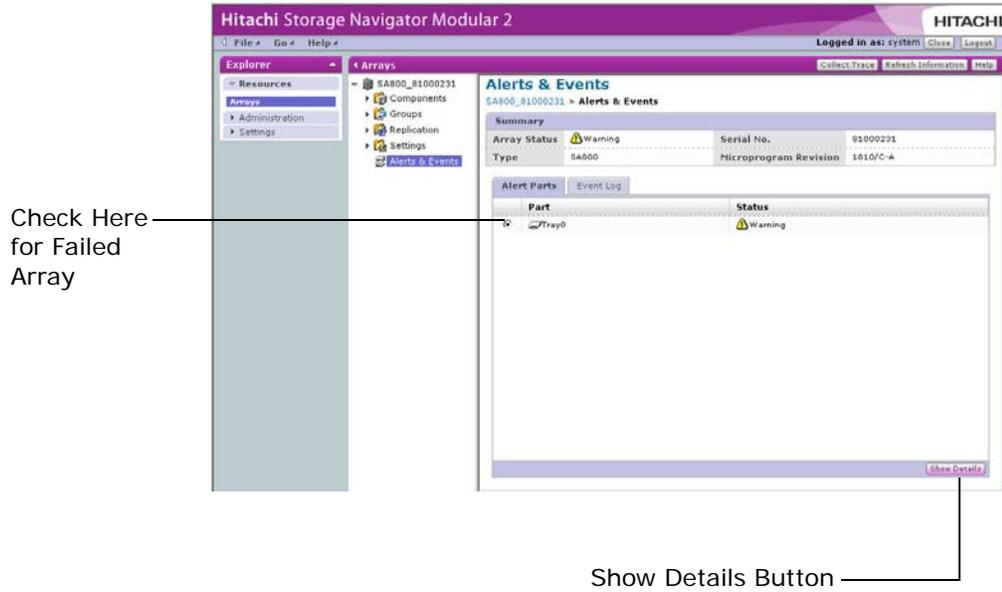
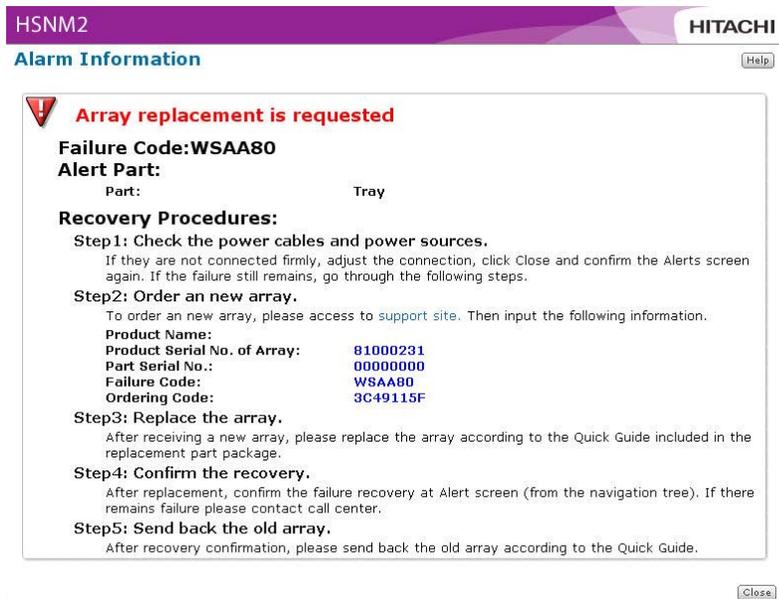

Figure 4-3: Example of Failed Part in the Alerts & Events Window
Figure 4-4: Example of Alarm Information Window
- If one failed part is shown in the Alerts & Events window, click **Show Details** (see Figure 4-3 on page 4-4), read the details about the failed part in the Alarm Information window (see Figure 4-4 on page 4-4), and click the link to the support site.